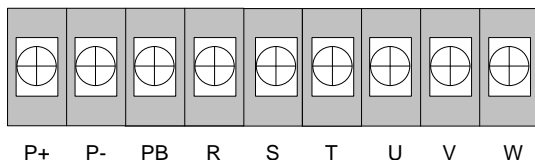

Fig. 2-19 Main Circuit Terminals
1) Main circuit terminals are as shown in Fig. 2-19.